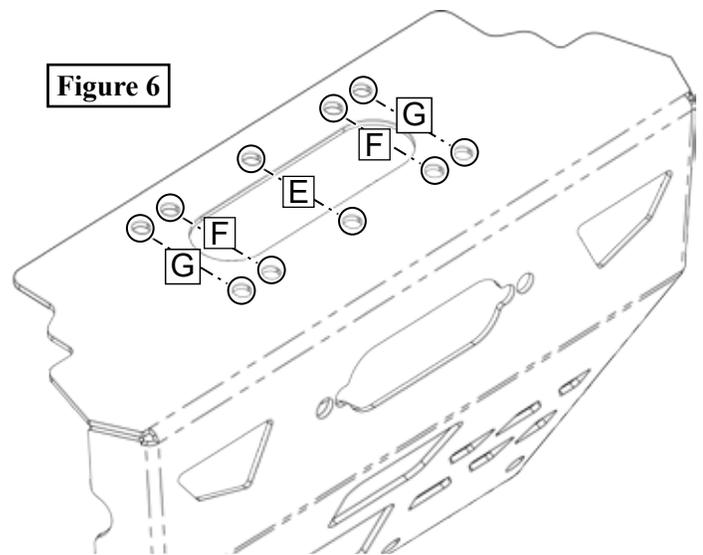

Figure 6
6. For a 2-Hole mounted winch, use holes (E). For standard 4-Hole winches, use holes (F). For wide 4-Hole winches, use holes (G) as shown in **Figure 6**.